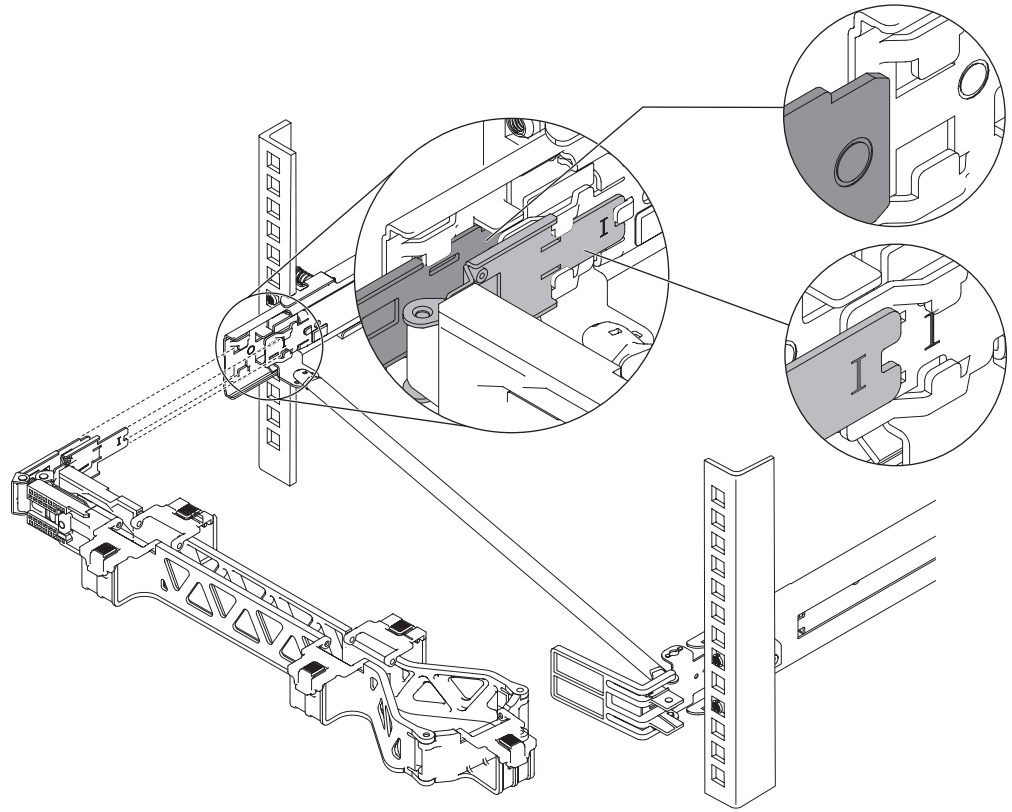

Figure 36. Installing the cable management arm
- 6. Install the cable management arm as shown in Figure 36 on page 45.